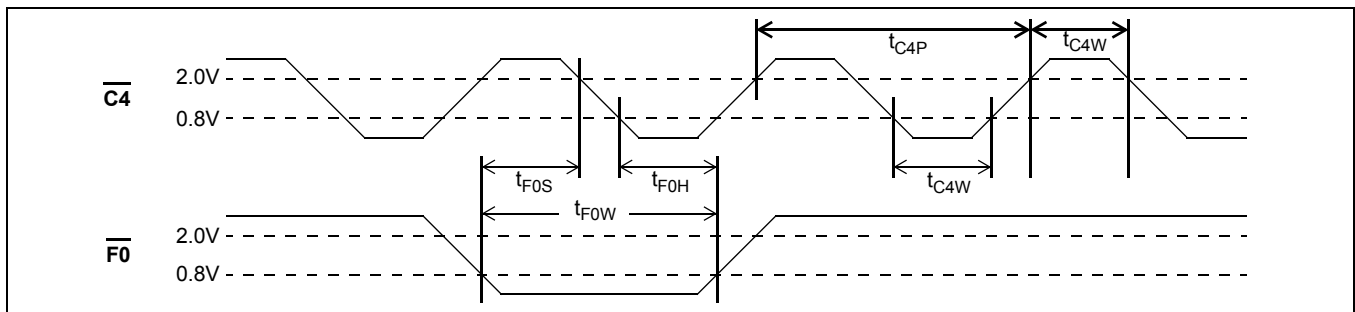
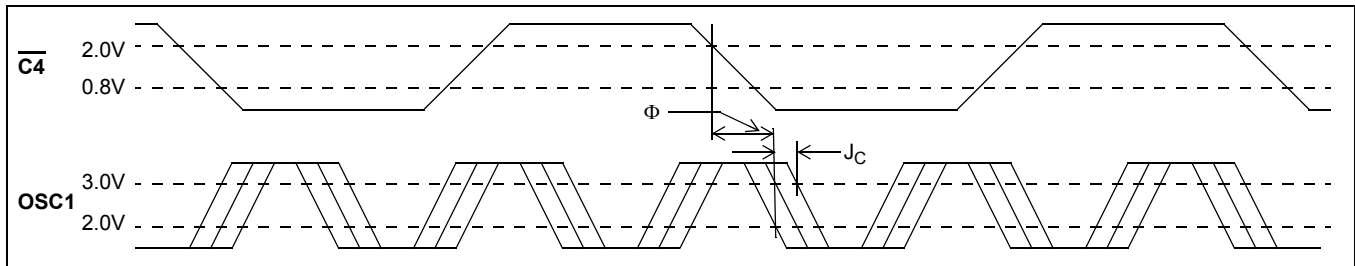

Figure 16 - $\overline{C4}$ Clock & Frame Pulse Alignment for ST-BUS Streams in DN Mode
Figure 17 - Frequency Locking for the $\overline{C4}$ and OSC1 Clocks in MAS/DN Mode
AC Electrical Characteristics[†] - Clock Timing - DN Mode (Figure 16 and Figure 17)
2) When operating in MAS/DN Mode, the $\overline{C4}$ and Oscillator clocks must be externally frequency-locked (i.e., $F_C = 2.5 \times f_{C4}$). The relative phase between these two clocks (Φ in Figure 17) is not critical and may vary from 0 ns to t_{C4P} . However, the relative jitter must be less than J_C (see Figure 17).